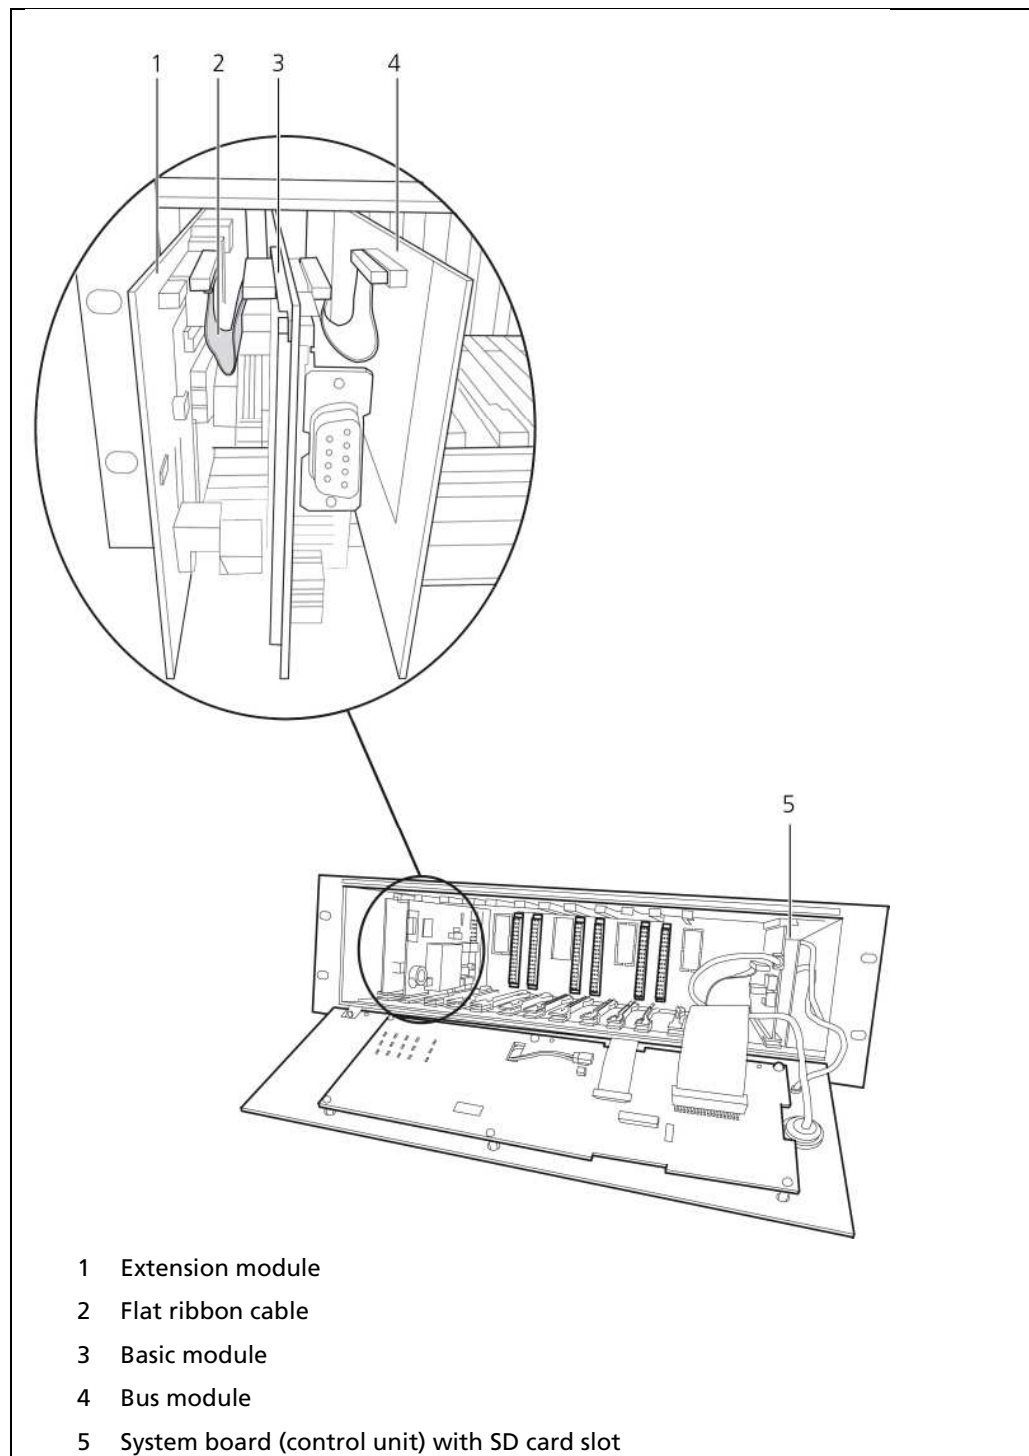

Fig. 10 Overview of the Installed Modules
4. Pull all modules (Fig. 10, Pos. 3) of the measurement channel out **at the same time** and remove the flat ribbon cable(s) if needed (Fig. 10, Pos. 2).
- Push all the modules (Fig. 10, Pos. 3) of the measurement channel in again **at the same time**.
4. Pull all modules (Fig. 10, Pos. 3) of the measurement channel out **at the same time** and remove the flat ribbon cable(s) if need be (Fig. 10, Pos. 2).
7. Push all the modules (Fig. 10, Pos. 3) of the measurement channel in again **at the same time**.